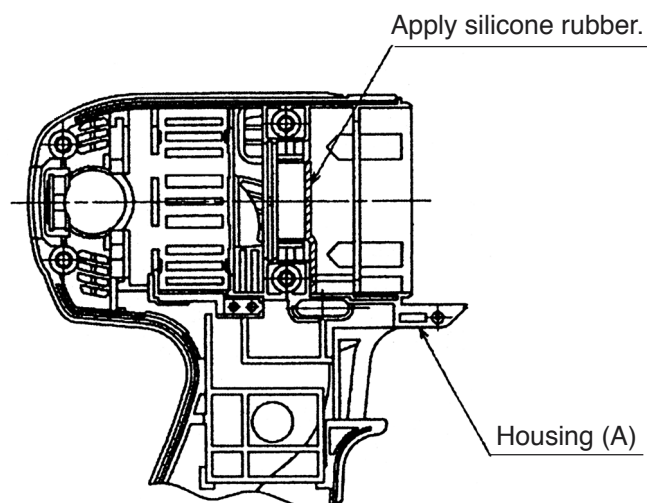

Fig. 13
- (c) Before mounting the parts to housing (A), apply silicone rubber (ThreeBond 1211) to the area illustrated in Fig. 13.